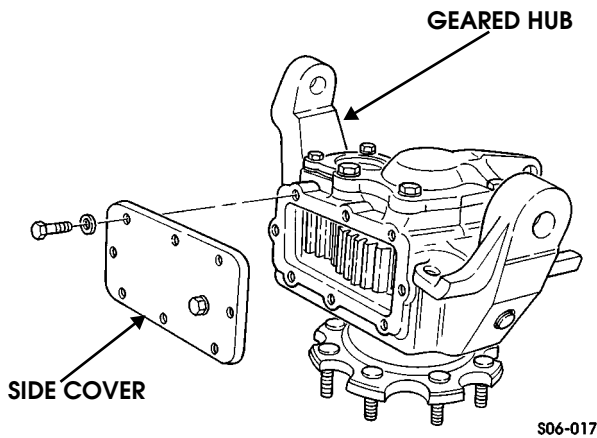

Figure 9-32: Geared Hub Side Cover Removal
23. Clean sealing surfaces on geared hub and side cover. Apply anaerobic sealer to side cover and install on geared hub (Figure 9-32).